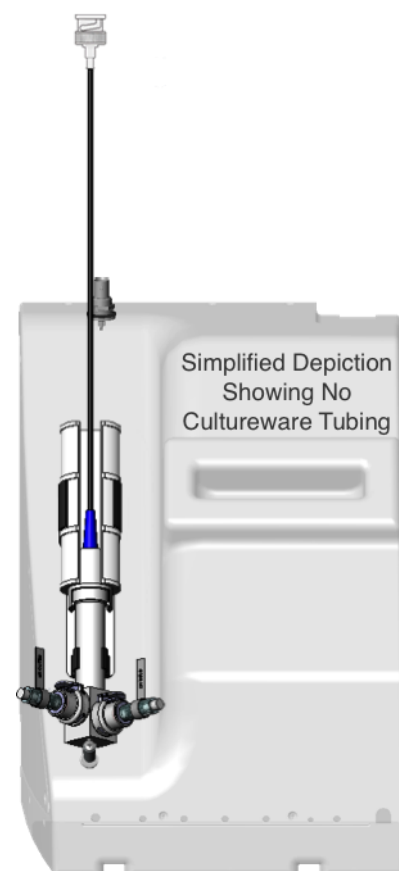

Figure 8-19: Hollow Fiber Bioreactor Fluid Dynamics
6. Press the disposable pH probe case into the reusable pH probe holder's small, black clip. Slide the disposable pH probe assembly upward until its upper end is firmly held within the reusable pH probe holder, see figure 8-19.
7. Press the combined reusable pH probe holder and disposable pH probe assembly into the black clip mounted on the front of the cultureware. Slide it all downward until it rests on the screw-post. Rotate this assembly to the right so the pH IN/LO port points toward the right, see figure 8-19.